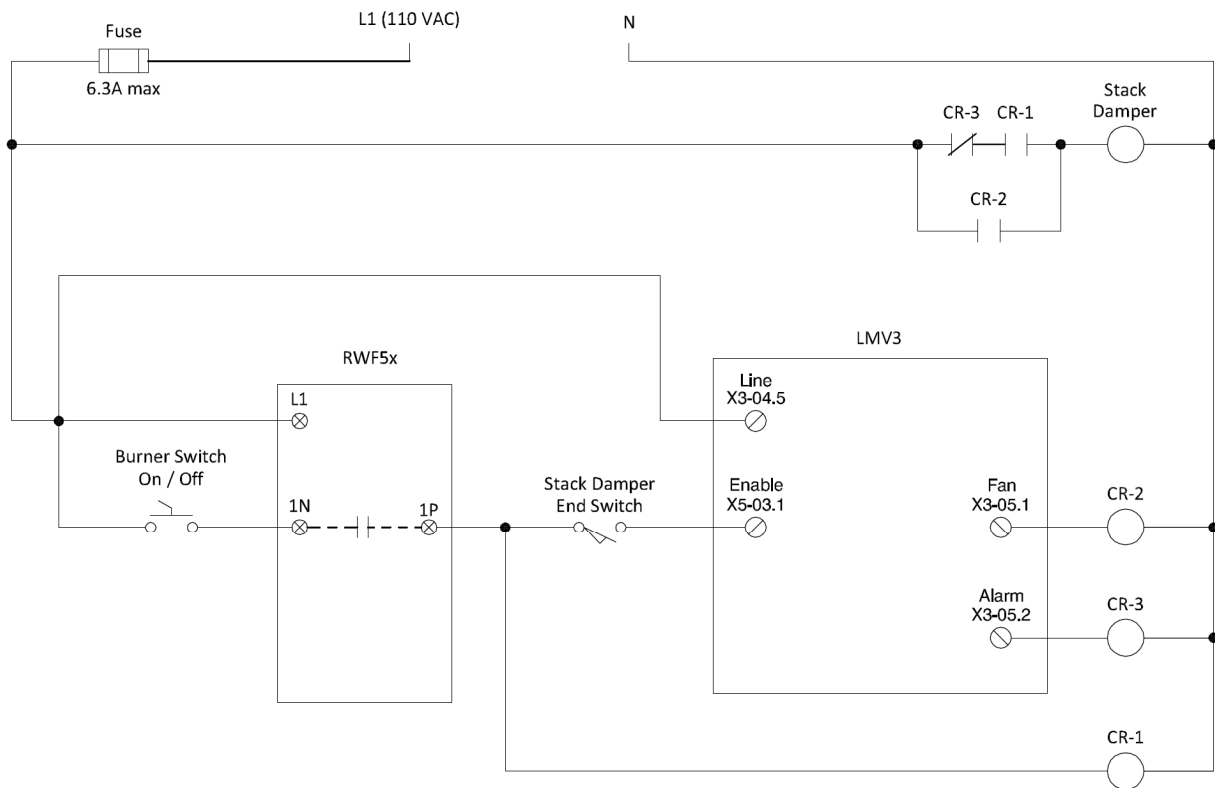

Figure 15: LMV3 Stack Damper Wiring
3. Wire the LMV3, RWF5x load controller, and stack damper as shown in Figure 15.